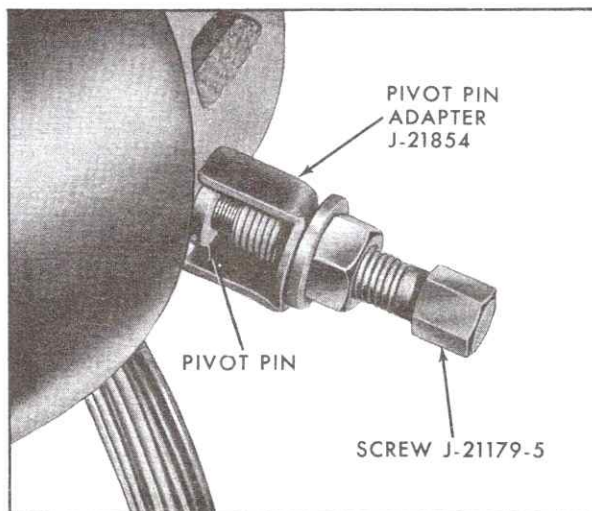

Fig. 9-51 Removing Pivot Pins
17. Remove two pivot pins from support assembly using Pivot Pin Adapter, J-21854, along with Screw, J-21179-5, nut and washer. Thread nut on special hardened step screw, insert flat washer, and insert screw through flat end of Adapter. Thread bolt into tapped hole in pivot pin so open side of adapter faces shift bowl, Fig. 9-51. Make certain that hole in flat end of Remover Tool is centered over pivot pin. To pull pivot pin, hold bolt from rotating with one wrench while turning nut off screw with second wrench.